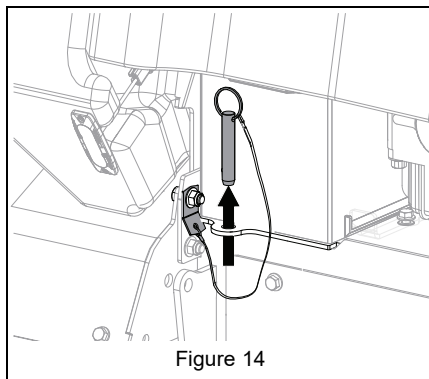

Figure 14
1. Remove platform lock pin from storage position. See Figure 14.